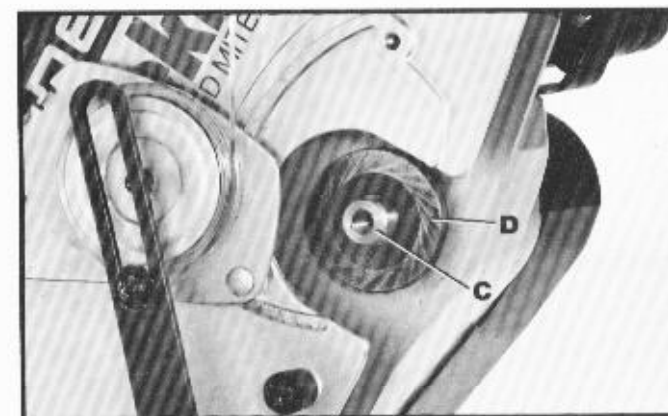

Fig. 8
3. Locate inside blade flange (D) Fig. 8, and assemble flange (D) to saw arbor (C) as shown. Make sure inside blade flange (D) is on the arbor as far as it will go and that the flange is clean and free of any foreign substance.